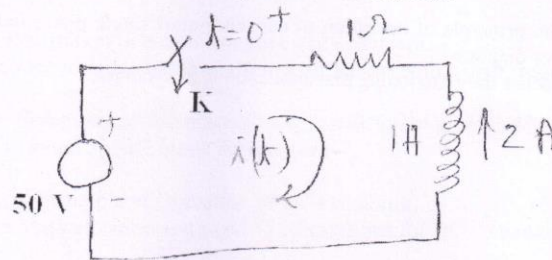

figure 1
- b) Find  $i(t)$  in the network shown below in figure 1, when the switch K is closed at  $t=0^+$ . A current of 2A was flowing at  $t=0^-$  in the inductor. [15]